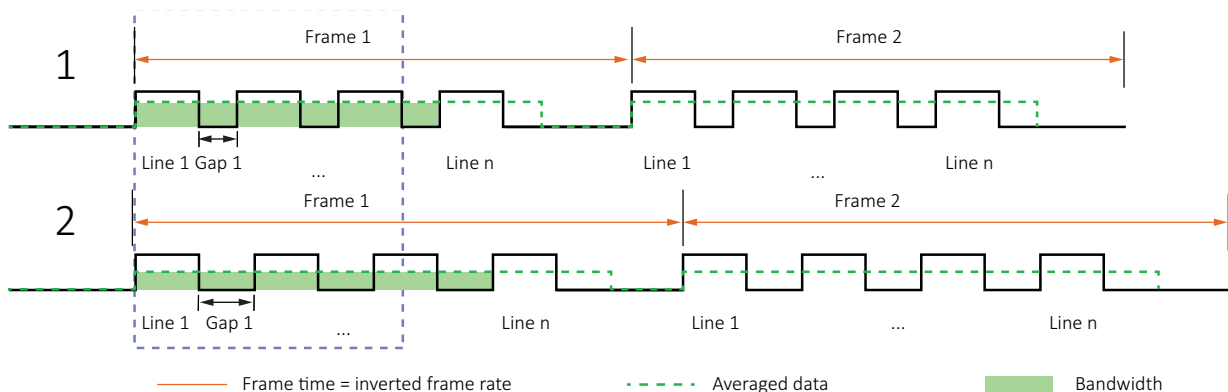

Figure 102: Sensor data output and camera data output
Figure 102 shows the bandwidth for a higher (1) and a lower (2) value for `DeviceLinkThroughputLimit` with Alvim G1.
- When high-resolution Alvium G1 cameras are operated at higher frame rates, corrupted frames can occur. This is shown schematically in Figure 102.